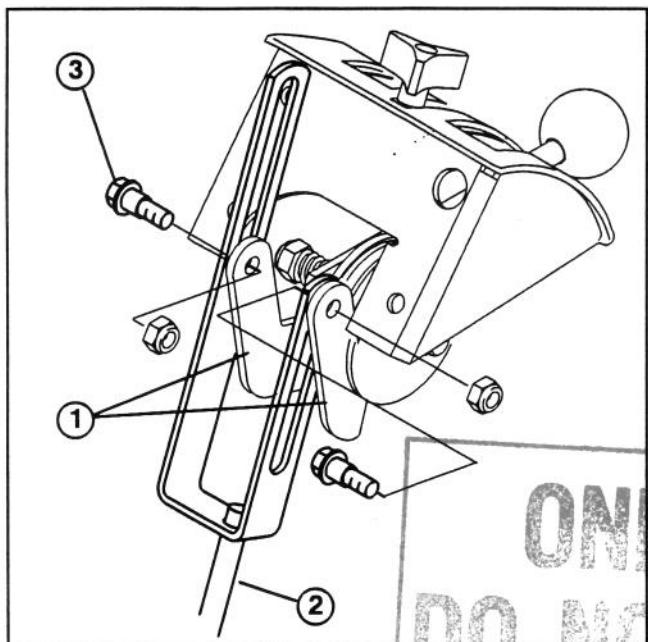

Figure 1
2. Mount slotted throttle rod ends to throttle levers with shoulder bolts and locknuts, as shown in figure 1. Make sure rod ends are mounted to sides of levers and bolt shoulders are positioned in rod end slots.